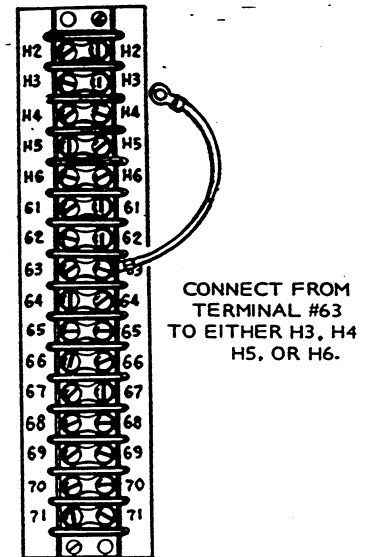

FIGURE 17. REFERENCE VOLTAGE CONNECTION
2. Connect wires together as shown on panel and in Figure 17 according to voltage desired.
3. Open hinged control panel doors. Connect lead from terminal 63 to correct terminal for voltage desired. These terminals are labeled H2, H3, H4, H5 and H6. See Figure 17.